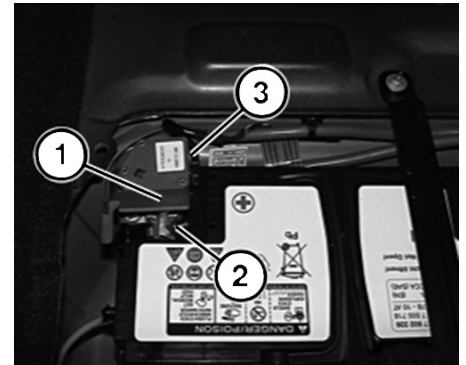

Fig. 2 Battery positive cable removal
3. Open cover (1) and loosen nut (2) below it, **Fig. 2**.
4. Disconnect safety battery terminal (3) towards top, lay to one side and secure, **Fig. 2**.
5. Connect safety battery terminal (3) and **torque** nut (2) to 44 inch lbs., **Fig. 2**.
6. Close cover (1), **Fig. 2**.